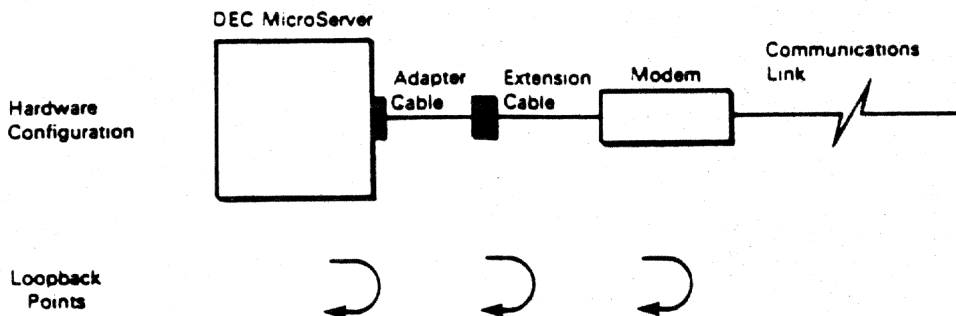

Figure E-6: Loopback Points that Can Be Used with the Modem Signal Test
E.4.13.2 Modem Signal Tests - The modem signal tests operate on the modem signals between the DEC MicroServer and the local modem. The signals can be looped back either at the DEC MicroServer's synchronous port or at the end of the adapter cable (see Figure E-6).